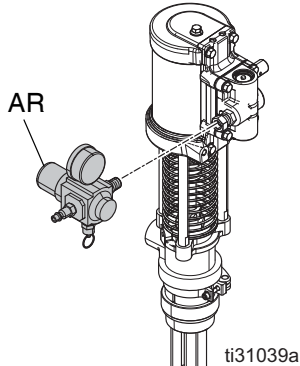

FIG. 5
1. Connect the supplied air regulator (AR) to the swivel fitting on the air motor manifold. See FIG. 5.